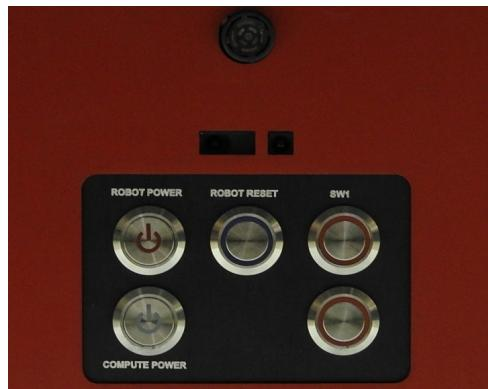

Figure 5.3: 0X Delta Robot Back Panel
Refer figure 5.3 for back panel of robot.
Step 3: Now press “ROBOT POWER” switch from back panel of robot. Refer figure 5.3 for location of switch from back panel. All the switches from back panel of robot are illuminated push button switches.
Step 4: Now press “COMPUTE POWER” switch from back panel of robot. Refer figure 5.3 for location of switch from back panel.